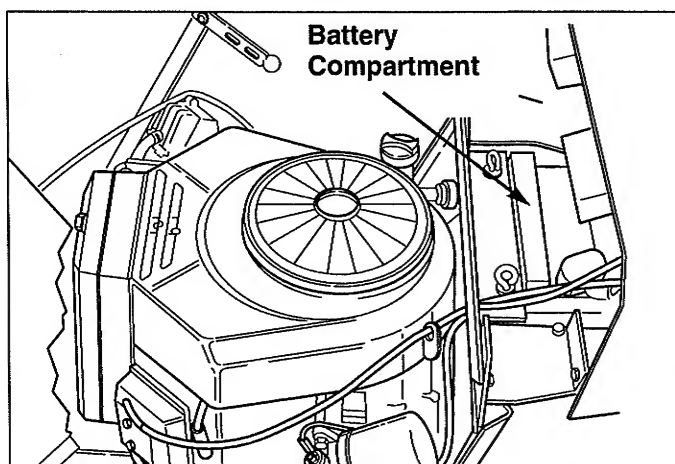

Figure 30. Battery Compartment (Air Cooled Model Shown)
1. Raise the hood to access battery compartment (see Figure 30).